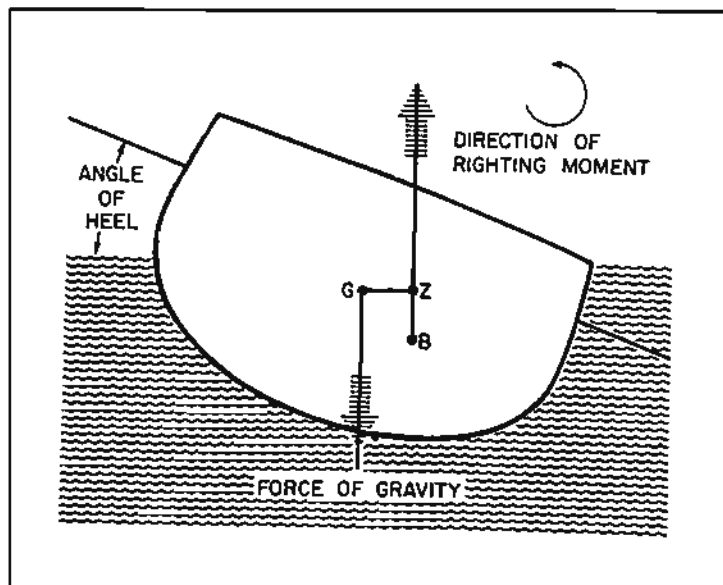

Figure 11-8. Development of righting moment when a stable ship inclines.
The newly formed couple produces either a *righting moment* or an *upsetting moment*, depending upon the relative locations of B and G. The fishing vessel illustrated in Figure 11-8 develops a righting moment, the magnitude of which is equal to the magnitude of one of the forces (B or G) times the perpendicular distance (GZ) which separates the lines of action of the forces. The distance GZ is known as the *righting arm* of the vessel.